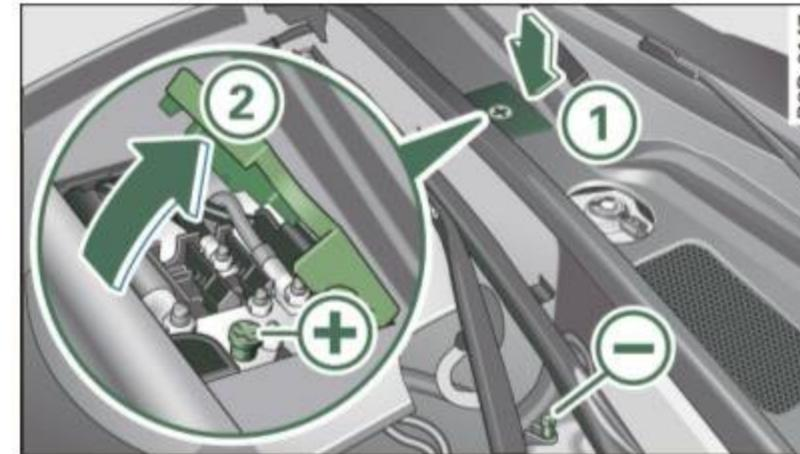
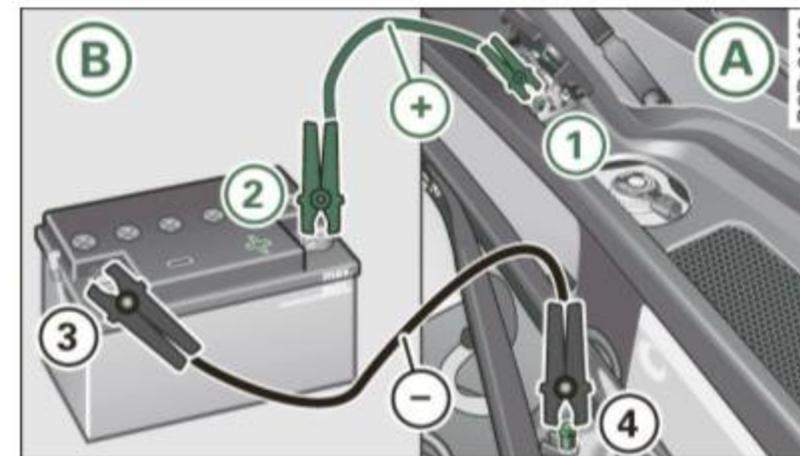

Fig. 231 Engine compartment: Connectors for jumper cables and charger
Fig. 232 Jump starting with the battery of another vehicle: A discharged vehicle battery, B booster battery
- Remove the cover ① by pressing on the arrow ⇒ fig. 231.
- Open the cover ② on the positive terminal.
1. Connect one end of the positive cable (red) on the **jump start bolt** ⇒ fig. 232 ① (Bolts under cover = “positive”) of the vehicle to be started ①A.
2. Connect the other end to the positive terminal ② of the booster battery ②B.
- Close the cover ② on the positive terminal and re-install the cover ① ⇒ page 310, fig. 231.
- Please note that the procedure for connecting a jumper cable as described above applies specifically to the case of your vehicle being jump started. When you are giving a jump start to another vehicle, do *not* connect the negative (–) cable to the negative (–) terminal on the discharged battery ④ ⇒ page 310, fig. 232. Instead, securely connect the negative (–) cable to either a solid metal component that is firmly bolted to the engine block or to the engine ►